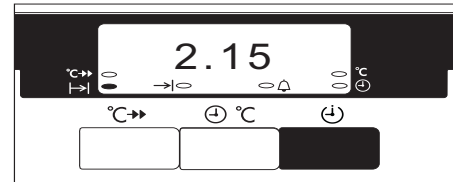

Fig.11
- vi) To check the 'End Time' during the cooking period, simply press the Time Selector Control button once and the remaining time will be displayed, as Fig. 11.